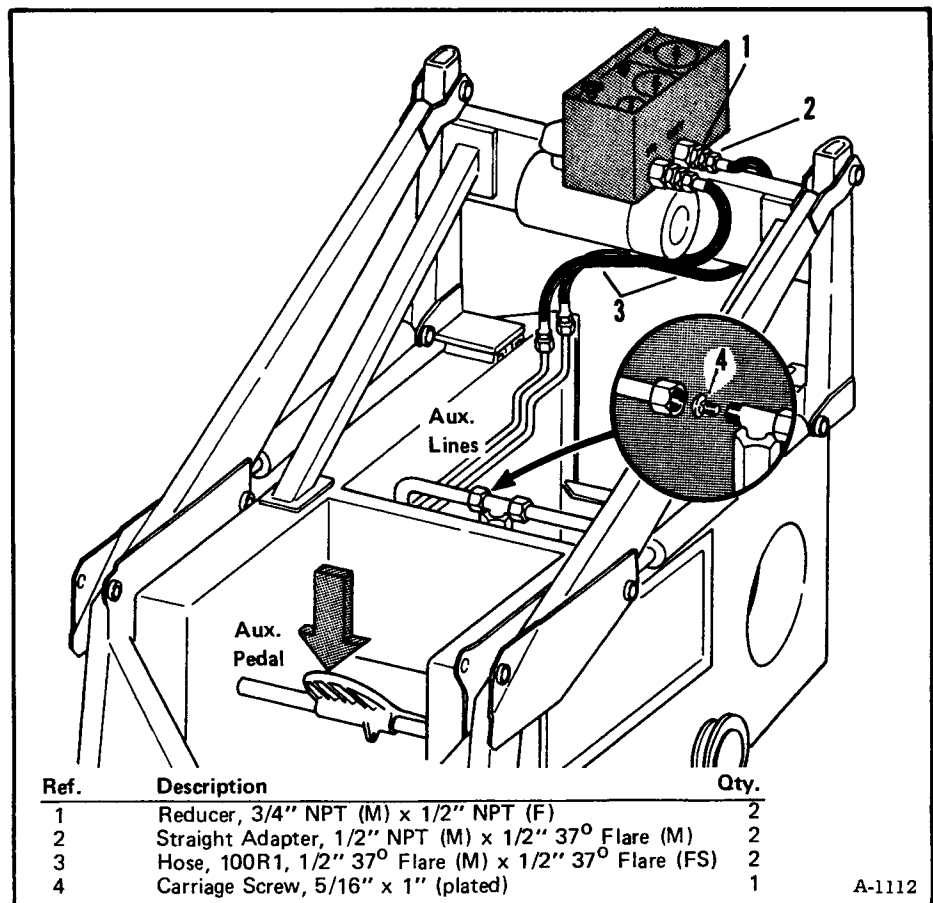

Fig. 8 Checking Cartridge Relief Pressure Setting
(1) Reconnect the tester to the auxiliary tubelines at the rear of the machine. Connect a hose from the rear auxiliary line to the outlet port of the tester. Connect a hose from the front auxiliary line to the inlet port of the tester (Fig. 8).
(2) Leave the stopper (5/16" x 1" long carriage bolt) between the clutch lubrication manifold tee and the master relief valve tubeline fitting.
(3) Be sure the "pressure control valve" knob on the tester is turned out (counterclockwise) as far as it will go.
- (4) Start the engine and run it at 1/4 throttle.
- (5) Press the toe of the auxiliary control pedal down and hold it (Fig. 8).
- (6) Turn the "pressure control valve" knob on the tester in (clockwise) until the cartridge relief valve opens. The pressure setting of this cartridge relief should be about $1800 \begin{smallmatrix} +100 \\ -0 \end{smallmatrix}$ PSI.